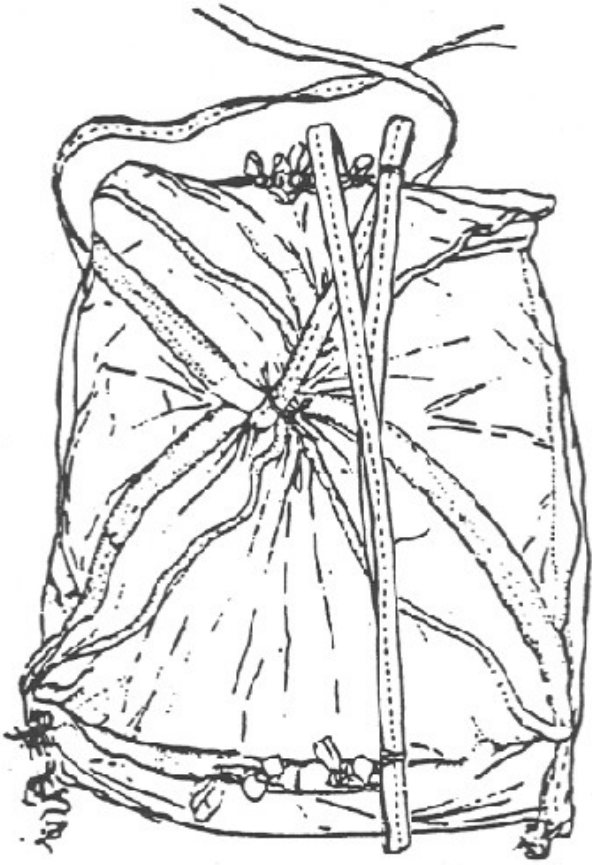

Figure 3-14
8. Stow the static line. (See Figure 3-14)